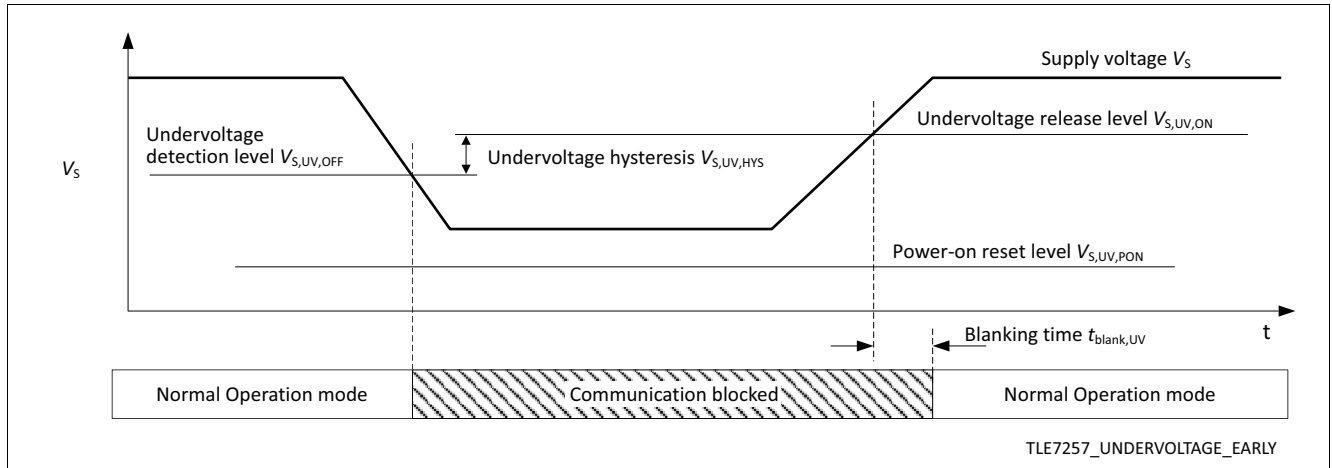

Figure 11 Early undervoltage detection
- In Normal Operation mode the TLE7257 blocks the communication between the LIN bus and the microcontroller when detecting undervoltage events. However, no mode change will occur. After V_S rises above the undervoltage release level $V_{S,UV,REL}$, the bus communication interface will be released when the signal on the TxD input goes "high". See Figure 11.